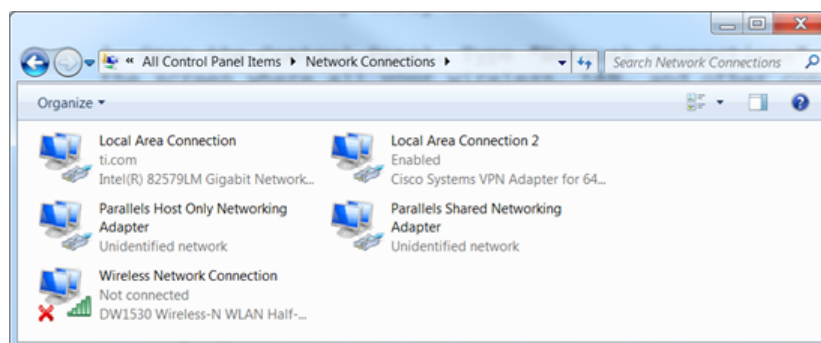

Figure 2-14. Windows 7 Network Connections Window
2. Select "View Network Connections." See Figure 2-14.